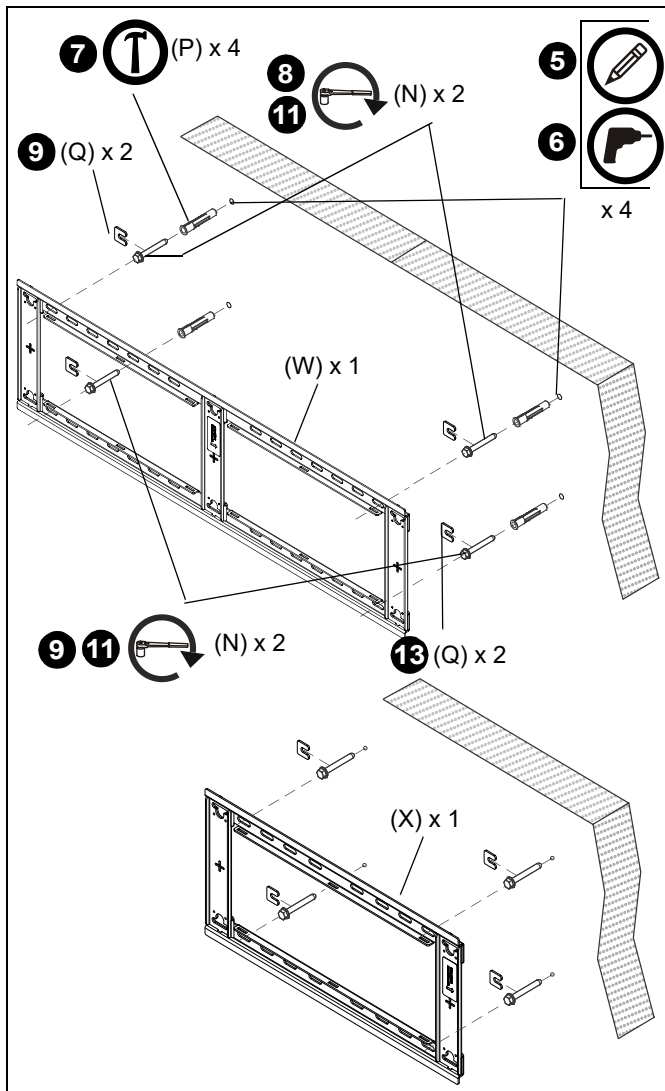

Figure 8
2. Line up the horizontal slots on mount (W/X) with center of screen marking to determine vertical center. (See Figure 8)
5. Using a level, mark the wall through both upper mounting slots. (See Figure 8)
7. Install an anchor (P) into each pilot hole using a hammer, making sure that the anchor is flush with the wall.
8. Replace mount (W/X) on wall and partially install two 5/16 x 2-1/2" flanged lag bolts (N) into upper anchors but do not tighten to wall.
9. Partially install two 5/16 x 2-1/2" flanged lag bolts (N) into lower anchors but do not tighten to wall.
10. Place one slotted washer (Q) over each flanged lag bolt. (See Figure 8)
12. Slide mount (U) to approximate center of screen location.